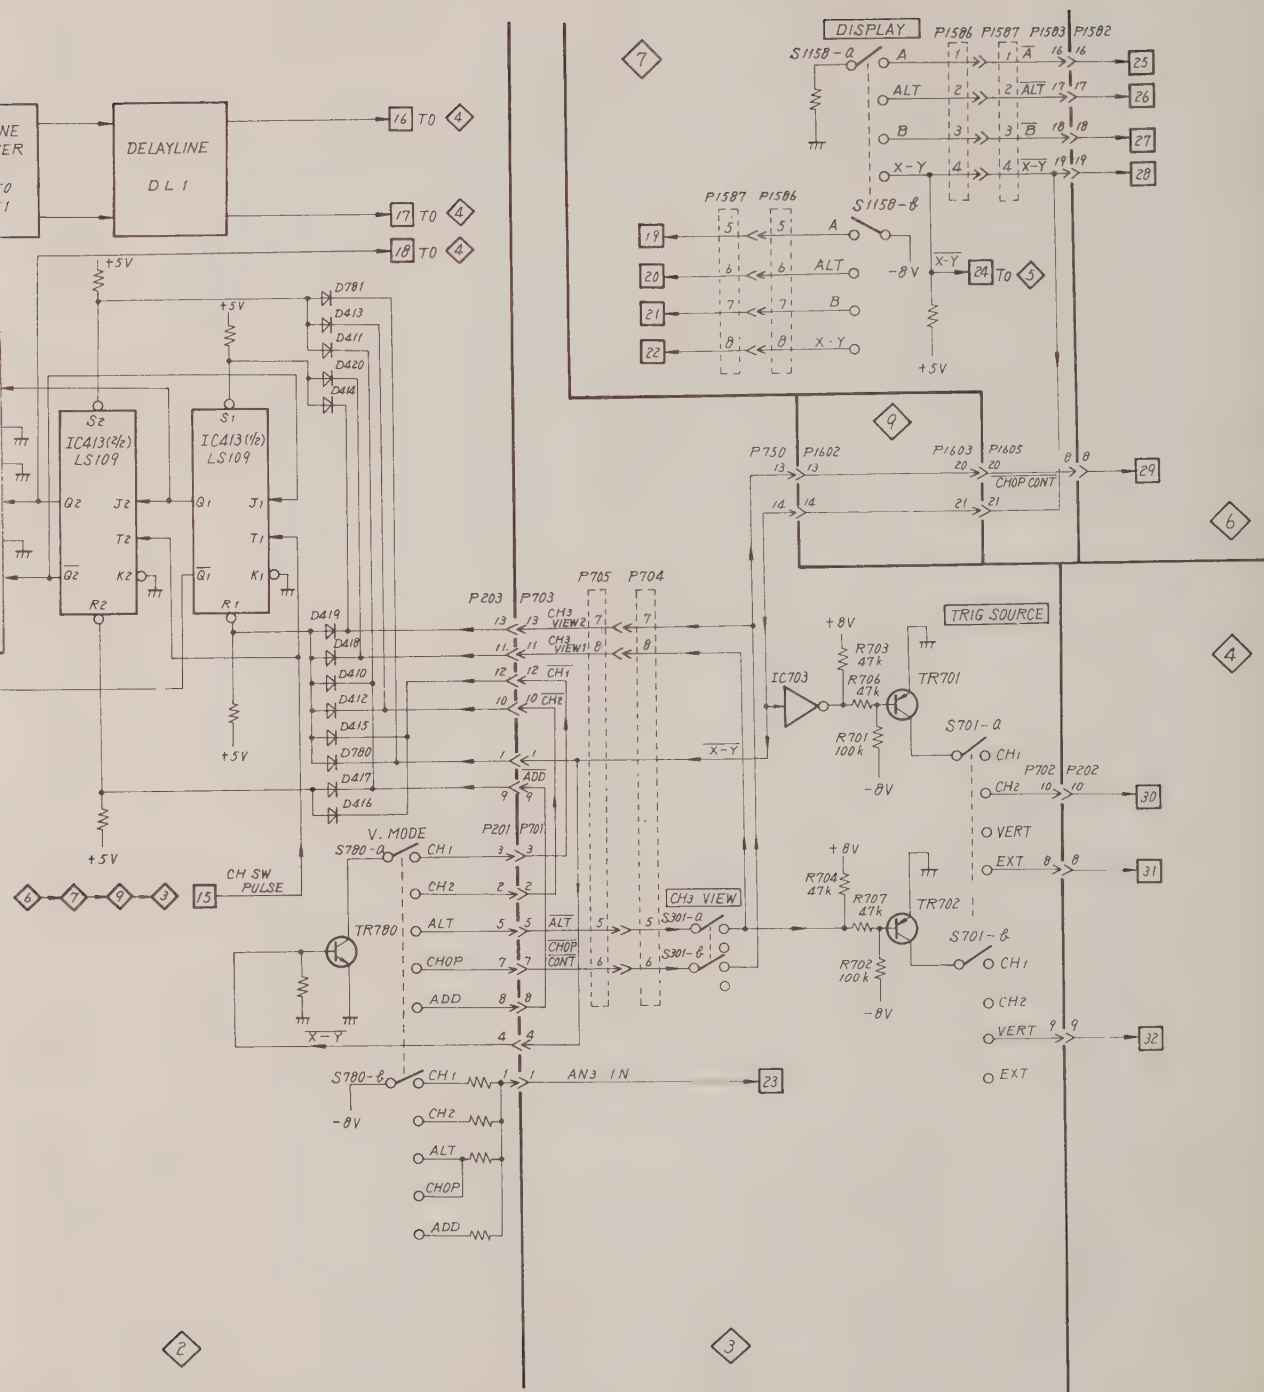

Fig. 6-4
Figure 6-4 is a detailed block diagram of the VERTICAL SWITCHING circuit.
When the INVERT switch is set at the position as shown in Figure 6-4 (not pulled state), each base of TR171 and TR172 becomes "L", and the base bias current flows. Then, TR171 and TR172 become on. At the time, TR175 and TR177 are off since each base of TR175 and TR177 is "H."
However, since the output lines of TR SW (1) cross each other as shown in Figure 6-4, the inverted CH2 SIG is supplied to the DIODE GATE 2.